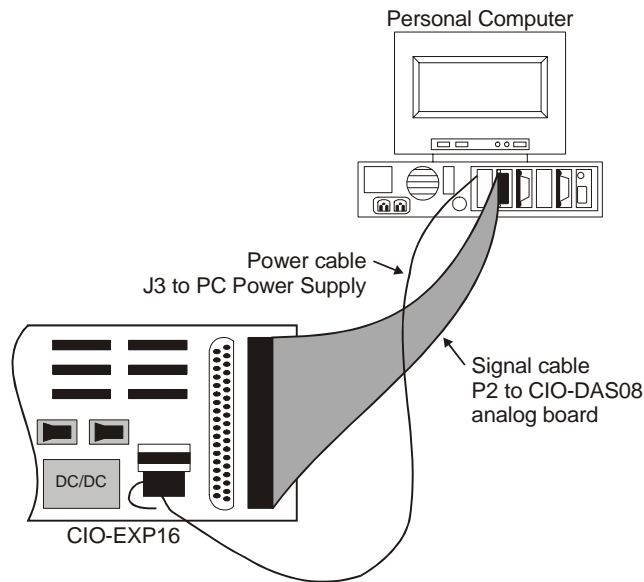

Figure 5. External power cable installation
2. Connect the black cable with the white Molex® type connectors to one of the unused PC expansion power connectors from the PC power supply. They are keyed, so the cable will plug into the expansion connector easily when they are aligned (see Figure 5).